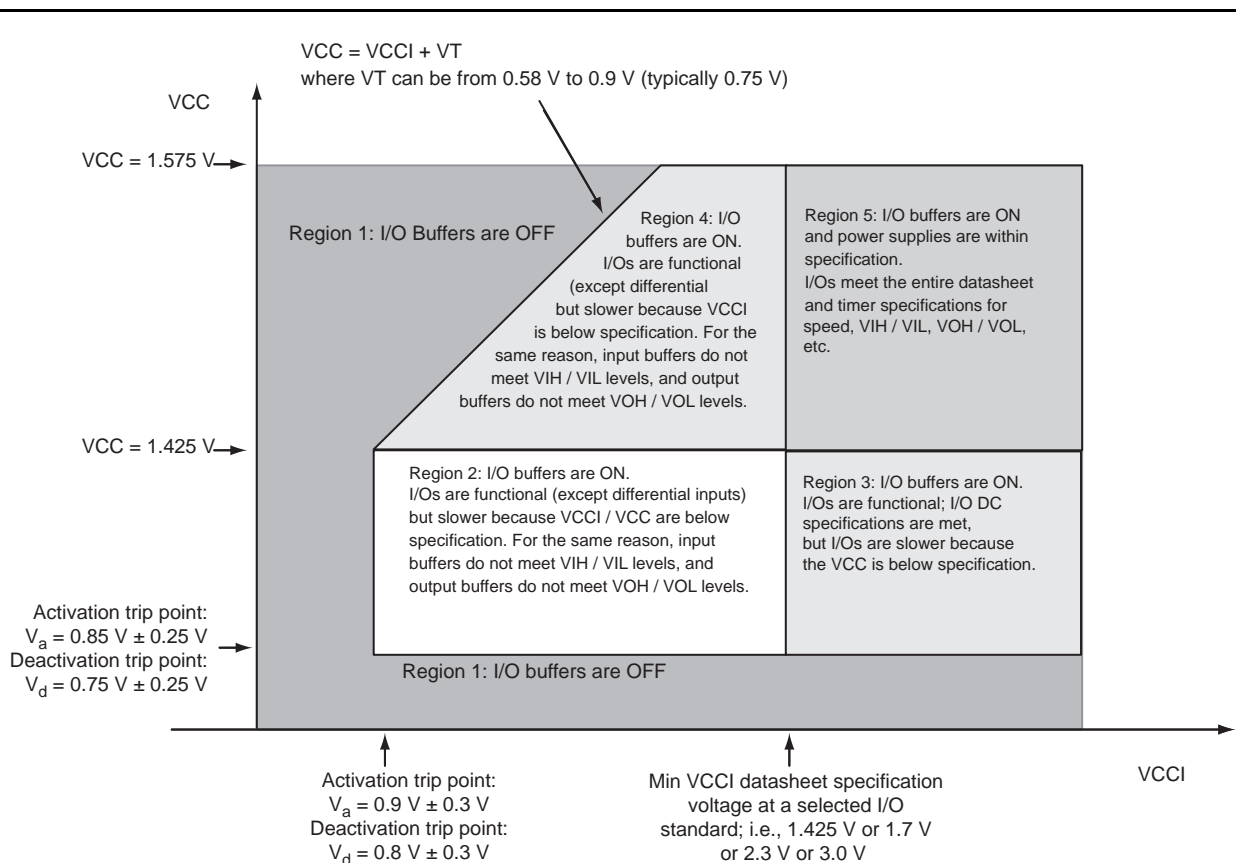
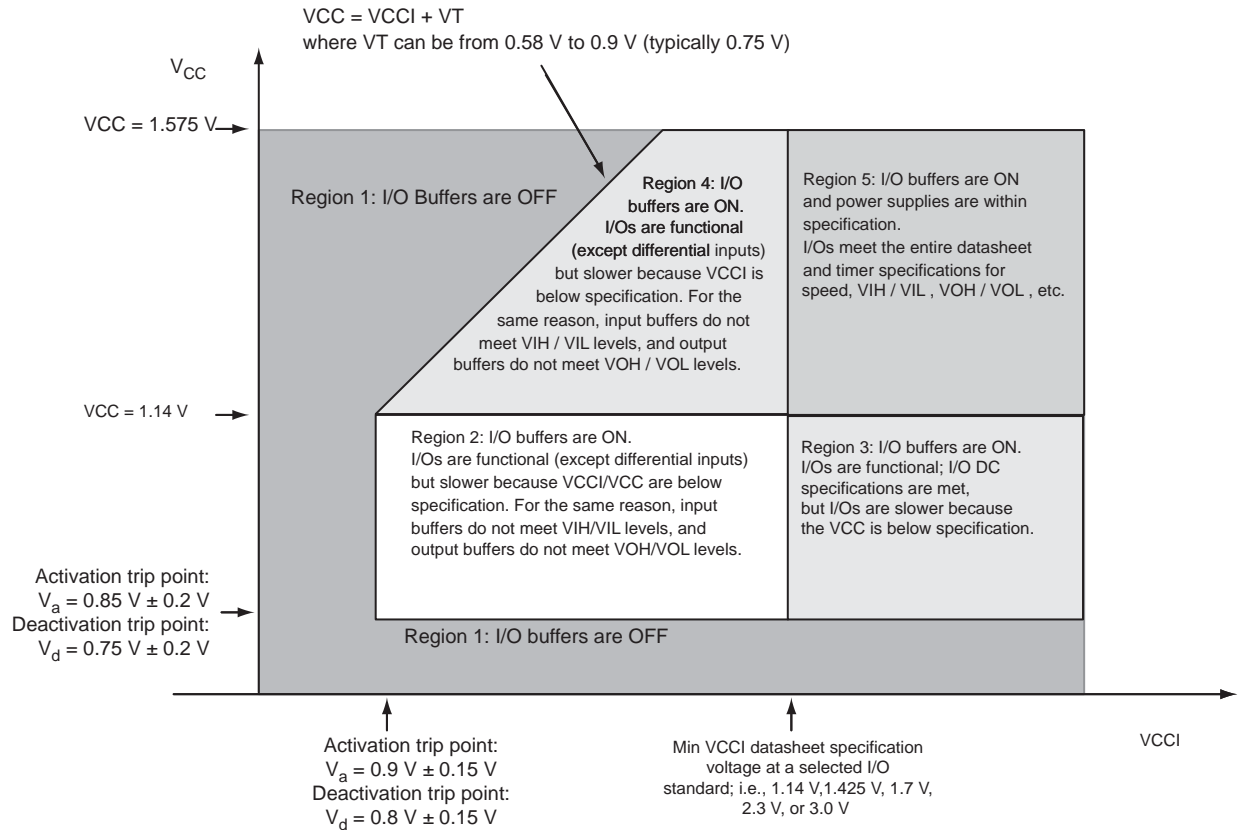

Figure 2-1 • V5 Devices – I/O State as a Function of VCCI and VCC Voltage Levels
Figure 2-2 • V2 Devices – I/O State as a Function of VCCI and VCC Voltage Levels
Sophisticated power-up management circuitry is designed into every ProASIC3 device. These circuits ensure easy transition from the powered-off state to the powered-up state of the device. The many different supplies can power up in any sequence with minimized current spikes or surges. In addition, the I/O will be in a known state through the power-up sequence. The basic principle is shown in Figure 2-1 on page 2-4 and Figure 2-2 on page 2-5.
1. VCC and VCCI are above the minimum specified trip points (Figure 2-1 on page 2-4 and Figure 2-2 on page 2-5).
Actel recommends using monotonic power supplies or voltage regulators to ensure proper powerup behavior. Power ramp-up should be monotonic at least until VCC and VCCPLX exceed brownout activation levels. The VCC activation level is specified as 1.1 V worst-case (see Figure 2-1 and Figure 2-2 on page 2-5 for more details).